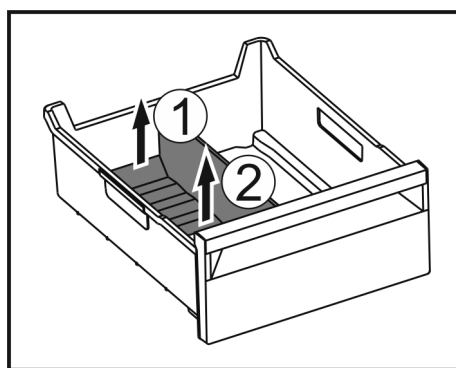

Fig. 249
- Lift the rear part of the ice compartment divider. Fig. 249 (1)
- Remove the ice compartment divider upwards. Fig. 249 (2)